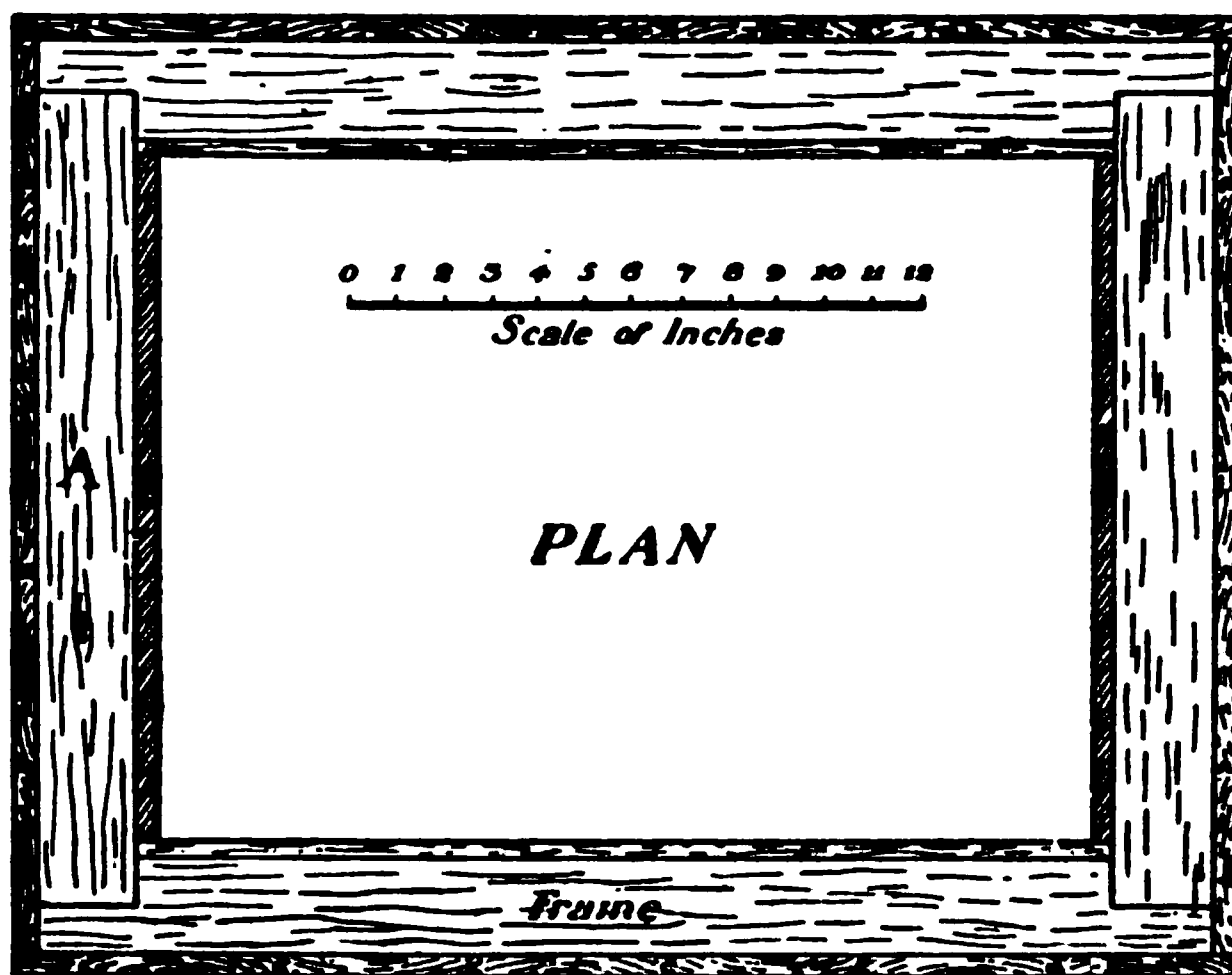

Fig. 38.—Plan of ice chest.
*Construction.*—Fig. 38 is a plan of the top of the chest immediately under the lid. Fig. 39 is a vertical longitudinal section through chest and lid.